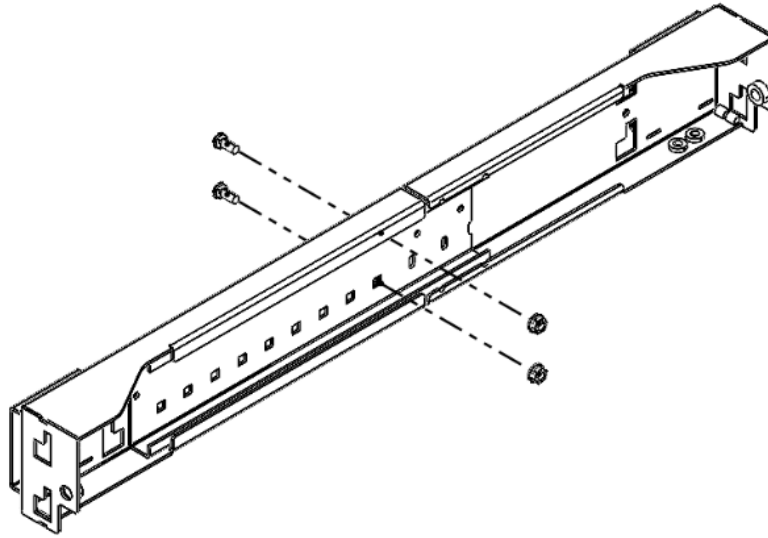

Figure 1
1) Using Electrical Tool with Hexagon(10mm) Socket to remove the fixed screws (M6 nuts) on the beam as shown in Figure 1. Torque=17.3N·m.